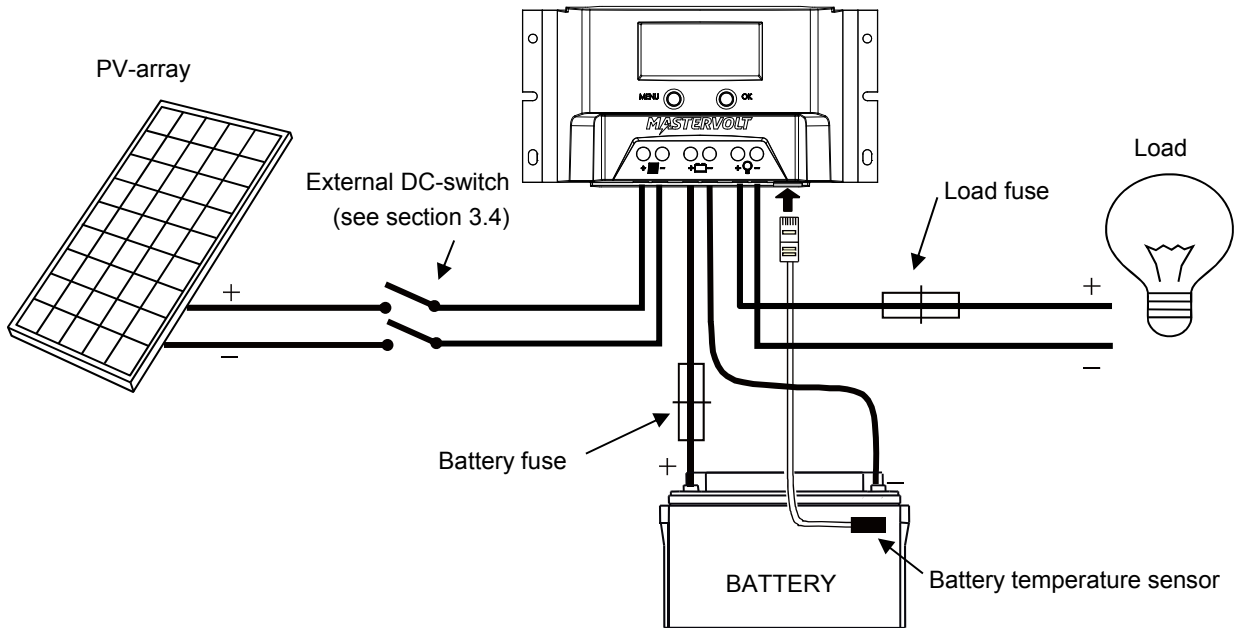

Figure 5: Load connected to the Load output on the Solar Chargemaster
See Figure 5 for a typical installation diagram. The Load output is provided with a protection circuit that switches off the connected load automatically in case of overload or if the battery voltage is too low. This kind of installation is typically used when the PV-modules are the only source of electrical power to charge the battery.
- 7 Check all wiring: positive to +, negative to -. See also Figures 5 and 6 for wiring examples. If OK, continue with section 3.8 for commissioning of the Solar ChargeMaster.